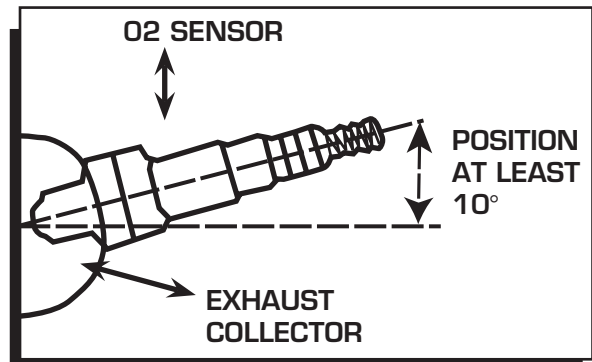

Figure 2 WBO2 Sensor Location.
- b. The WBO2 sensor should be at least 10° above horizontal to allow condensation runoff. Without this angle the sensor is significantly more likely to sustain water damage (Figure 2).